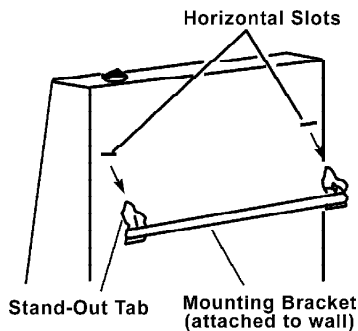

**Figure 10 - Popping Open Anchor Wing For Thin Walls**
4. For thin walls (1/2" or less), insert red key into wall anchor. Push red key to "pop" open anchor wings (see Figure 10).